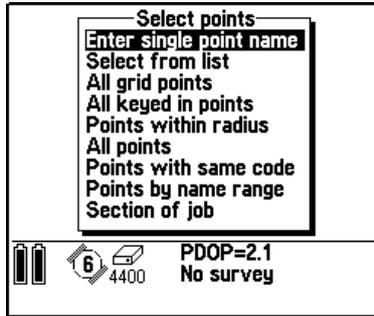

Figure 3.7 Select points screen – Trimble Survey Controller software database
- a. Press the softkey. The *Select point* screen appears, see Figure 3.7.